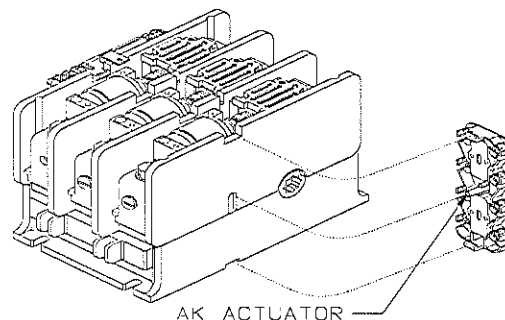

FIGURE 5
3. Install the new AK (FIGURE 5). First, insert the lower tab into the recess on the side of the contactor base. With proper installation, the AK Actuator will fit into the hole in the center of the brass stud - which can be viewed through the slot in the side of the contactor housing. Using a thin screw driver or other thin rod, push the AK Actuator up or down as